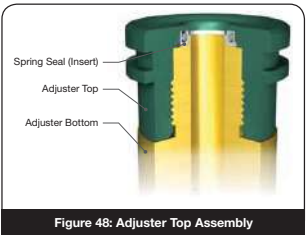

Figure 48: Adjuster Top Assembly
- ix. Inspect Adjuster Top to make sure that Spring Seal (Adjuster Top) did not flare out during installation and that the Spring Seal (Adjuster Top) is oriented as shown in Figure 48.